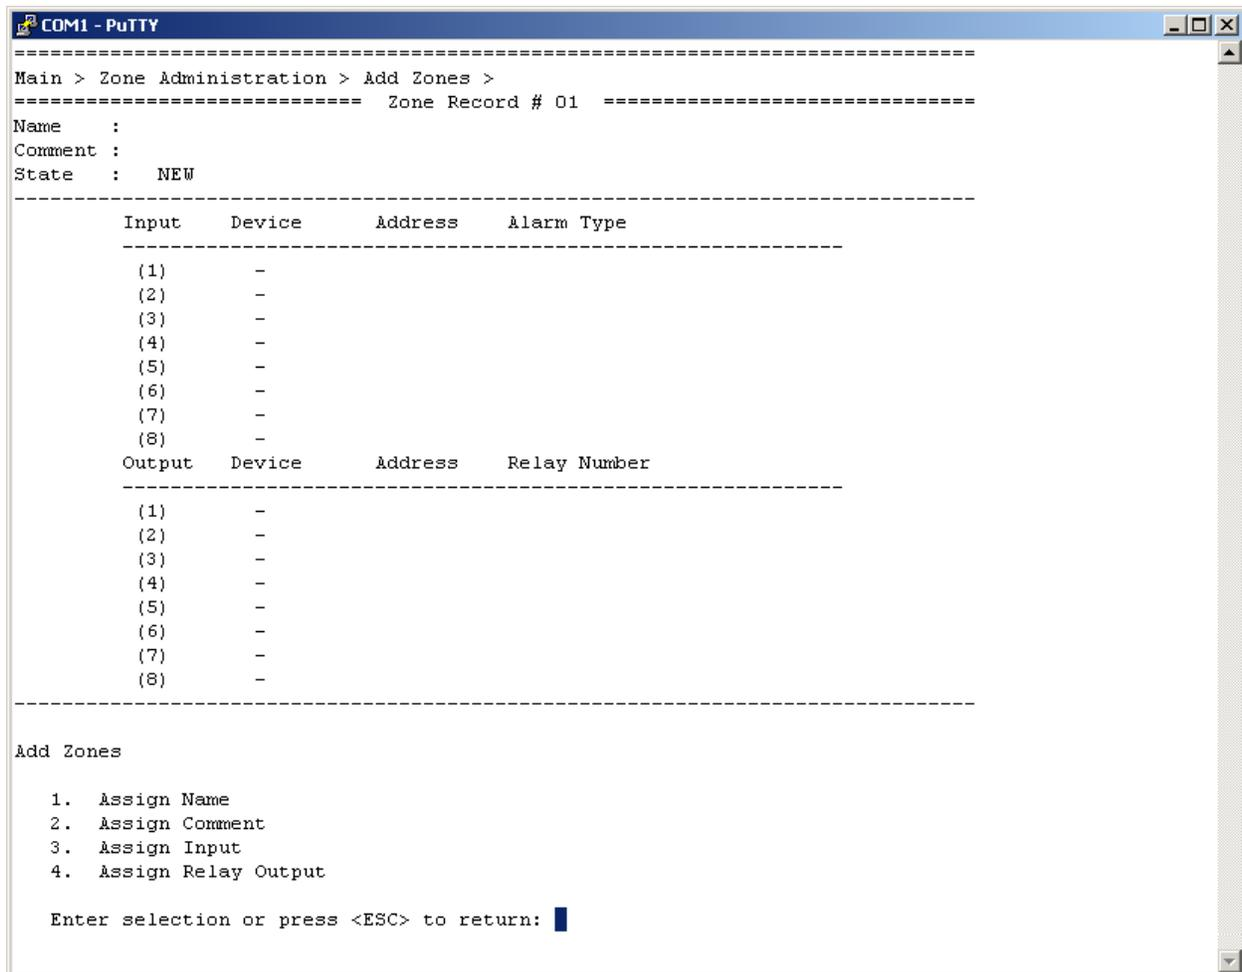

Figure 29 – Add Zones Screen
Selecting command number 1 will open the “Add Zones” screen as shown in Figure 29. This will open as a blank Zone Record screen that will be used to create a Zone Record. A maximum of 32 Zone Records can be created. A Zone Record can have up to eight (8) inputs and eight (8) outputs assigned to it. There are four (4) commands to make the Zone Record; Assign Name, Assign Comment, Assign Input and Assign Relay Output. A copy of this blank record will be in Attachment A for handwriting the assignments for a specific site.